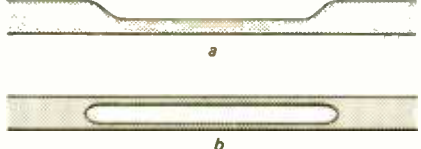

FIG. 1—REDUCED TAPE WIDTH (a) and a slot in tape (b) are two ways of controlling the recorders.
width (see Fig. 1-a). A wire feeler drops down in this reduced-width area, operating a sensitive snap-action switch which in turn operates two relays to: (1) stop the outgoing message tape (2) release the stored capacitor charge which delivers a short oscillator tone burst and (3) start the message recorder.